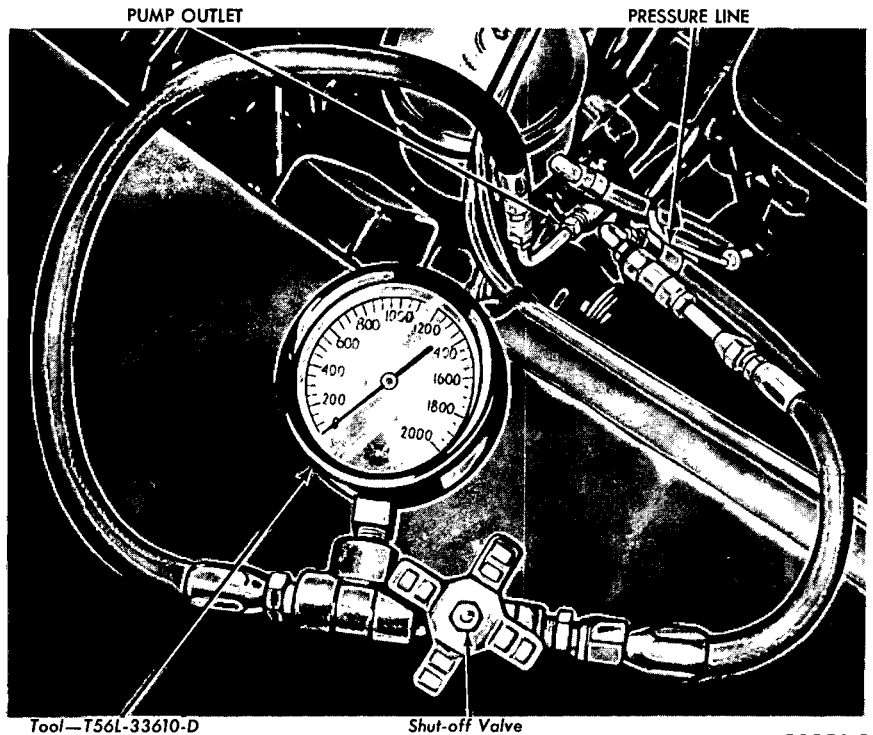

FIG. 2—Pressure Testing Tool Installed
1. Disconnect the pressure line hose from the pump outlet, and install the pressure testing tool between the hose and the pump outlet (Fig. 2). **Be sure that the pressure gauge is between the pump and the shut-off valve on the tool.**